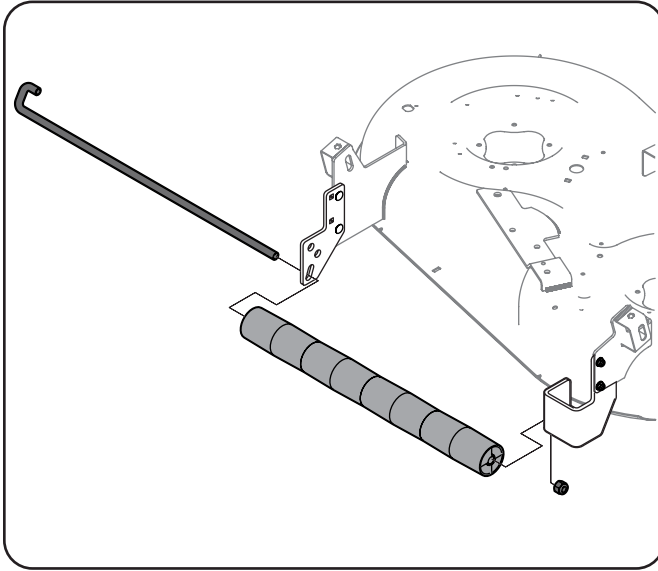

Figure 1-7
3. Align the four Rollers (#5) inside the brackets and slide the Roller Pin (#2) through the center of the rollers and into the mounting hole of the Right Roller Bracket (#7). See Figure 1-7.
- Make sure that the J-shaped end on the Roller Pin is secured in the mounting hole of the Left Roller Bracket (#6) and then secure the end on the Roller Pin with a ½ Lock Nut (#4). See Figure 1-7.